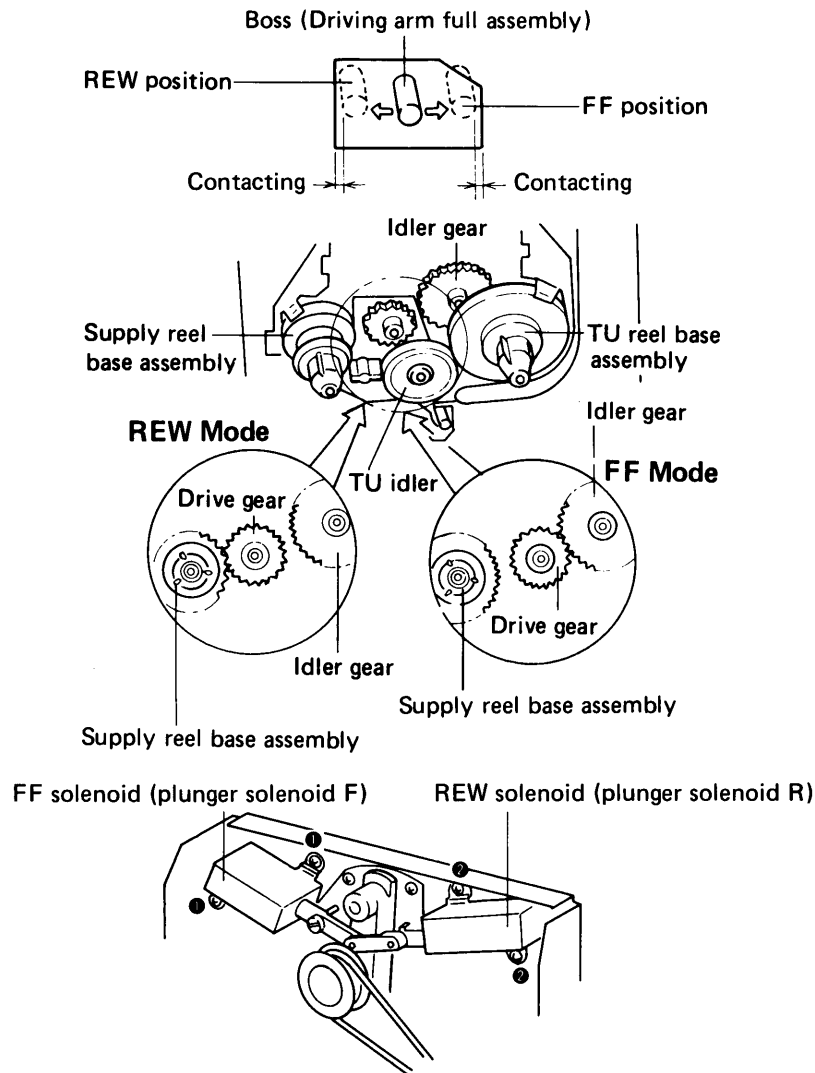

Fig. 12-4 FF and REW solenoid adjustment
2. Loosen screw ❶ and adjust the mounting position of the FF solenoid (plunger solenoid F) so that the square hole in the full reel base assembly is flush against the boss of the full drive arm assembly. (See Fig. 12-4)
2. Loosen screw ❷ and adjust the mounting position of the REW solenoid (plunger solenoid R) so that the square hole in the full reel base assembly is flush against the boss of the full drive arm assembly. (See Fig. 12-4).